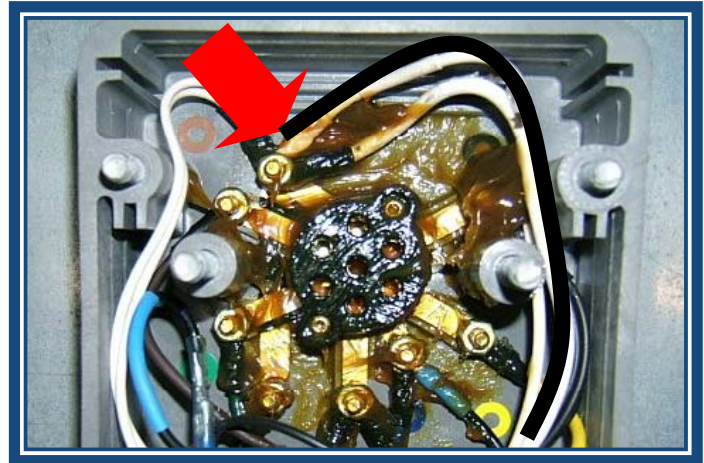

Figure 16
**Step 16:** Route the black 10 AWG wire to the ground screw in the 7 way box. Cut to length and slide a piece of the black heat shrink over the wire. Now crimp and solder a #10 eyelet on the wire and apply heat to the heat shrink. Once properly terminated remove the nut and add this wire to the ground stud. (See Figure 16)